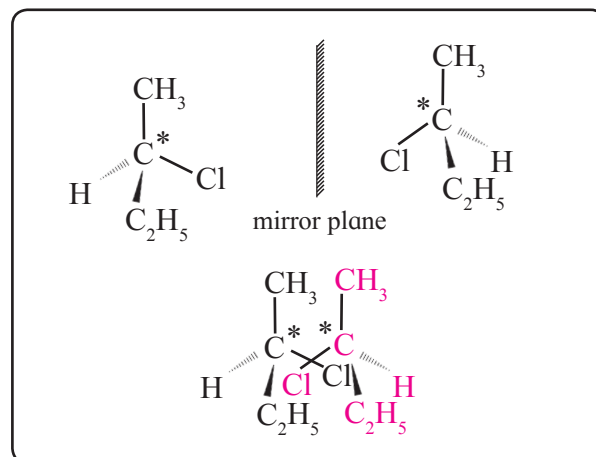

Fig. 10.1 : Nonsuperimposable mirror images
When a molecule contains one chiral atom, it acquires a unique property. Such a molecule can not superimpose perfectly on its mirror image. It is called **chiral** molecule. A chiral molecule and its mirror image are not identical (see Fig. 10.1).
10.5.4 Enantiomers : The optical isomers which are non-superimposable mirror image of each other are called **enantiomers** or **enantiomorphs** or **optical antipodes**. For example, 2 - chlorobutane exists as a pair of enantiomers (Fig. 10.1).